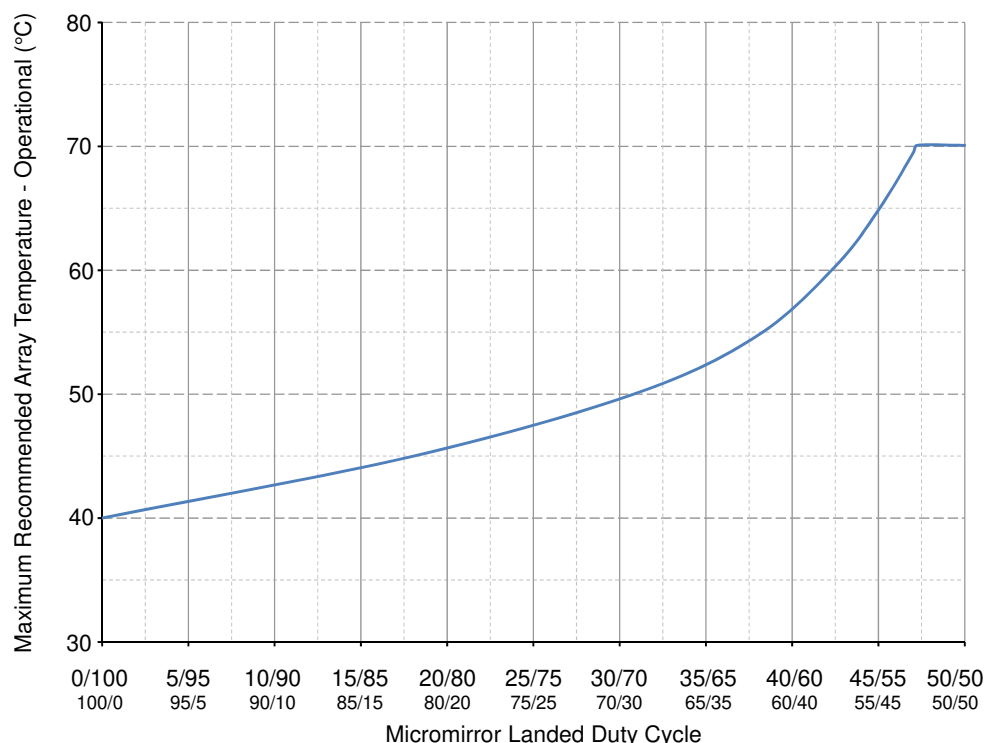

Figure 6-1. Maximum Recommended Array Temperature—Derating Curve
- (13) Per 図 6-1, the maximum operational array temperature must be derated based on the micromirror landed duty cycle that the DMD experiences in the end application. See セクション 7.7 for a definition of micromirror landed duty cycle.
- (14) Long-term is defined as the usable life of the device.
- (15) Array temperatures beyond those specified as long-term are recommended for short-term conditions only (power-up). Short-term is defined as the cumulative time over the usable life of the device and is less than 500 hours.